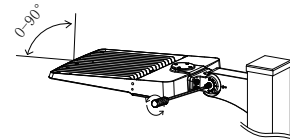

Figure 2-4
Step4: If the installation angle of the fixture needs to be adjusted, loosen the screws of the bracket and fix them again after finished adjustment, Figure 2-4;